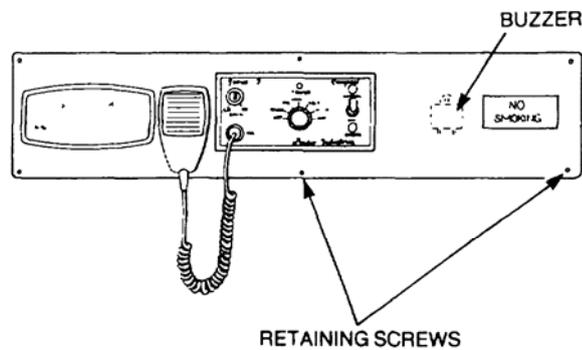

Figure 21 Auxiliary Switch Panel Removal
- b. Remove the screws retaining the auxiliary switch panel to the cab (refer Figure 21).